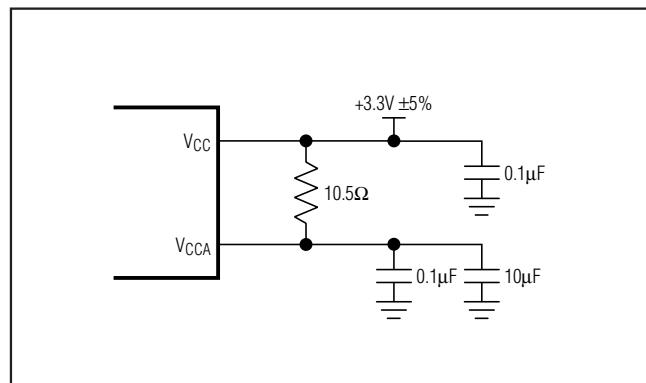

Figure 2. Analog Supply Filtering
**Note 1:** A series resistor of up to  $10.5\Omega$  is allowed between  $V_{CC}$  and  $V_{CCA}$  for filtering supply noise when system power-supply tolerance is  $V_{CC} = 3.3V \pm 5\%$ . See Figure 2.
The MAX3679 is a mixed analog/digital IC. The PLL contains analog circuitry susceptible to random noise. In addition to excellent on-chip power-supply noise rejection, the MAX3679 provides a separate power-supply pin, VCCA, for the VCO circuitry. Figure 2 illustrates the recommended power-supply filter network for VCCA. The purpose of this design technique is to ensure clean input power supply to the VCO circuitry and to improve the overall immunity to power-supply noise. This network requires that the power supply is  $+3.3V \pm 5\%$ . Decoupling capacitors should be used on all other supply pins for best performance.